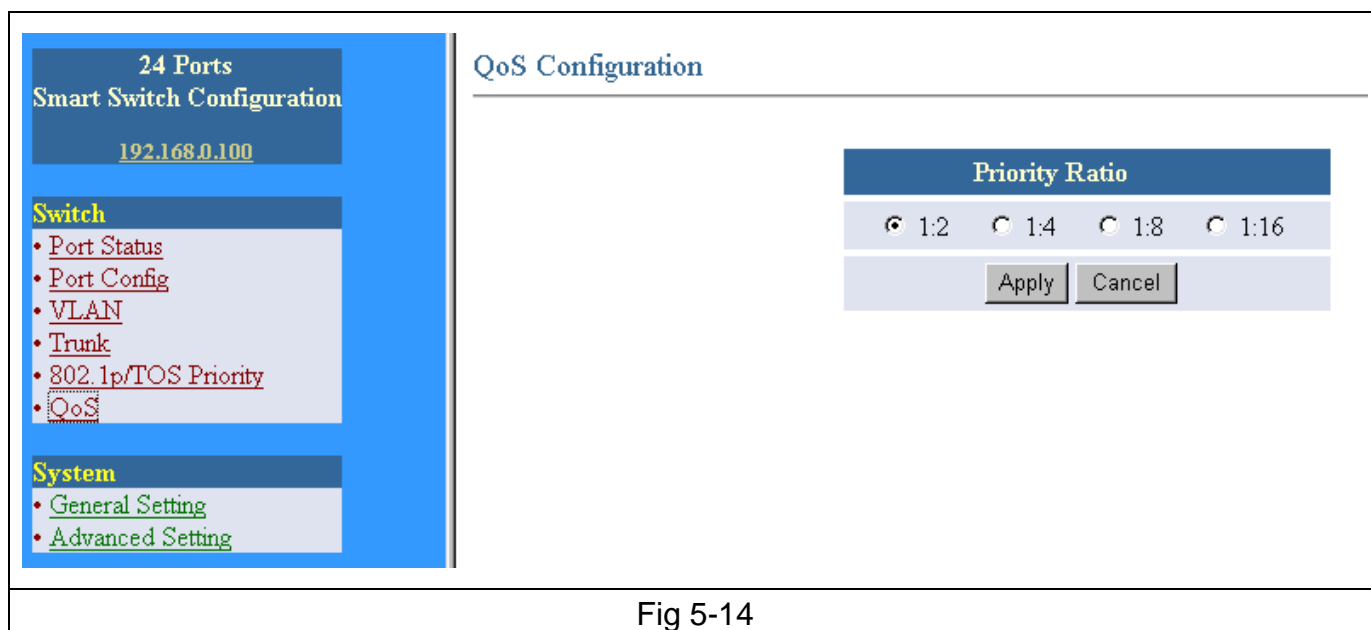

Fig 5-14
1. Select the Priority Ratio. (Low Queues : High Queue) (Fig 5-14)